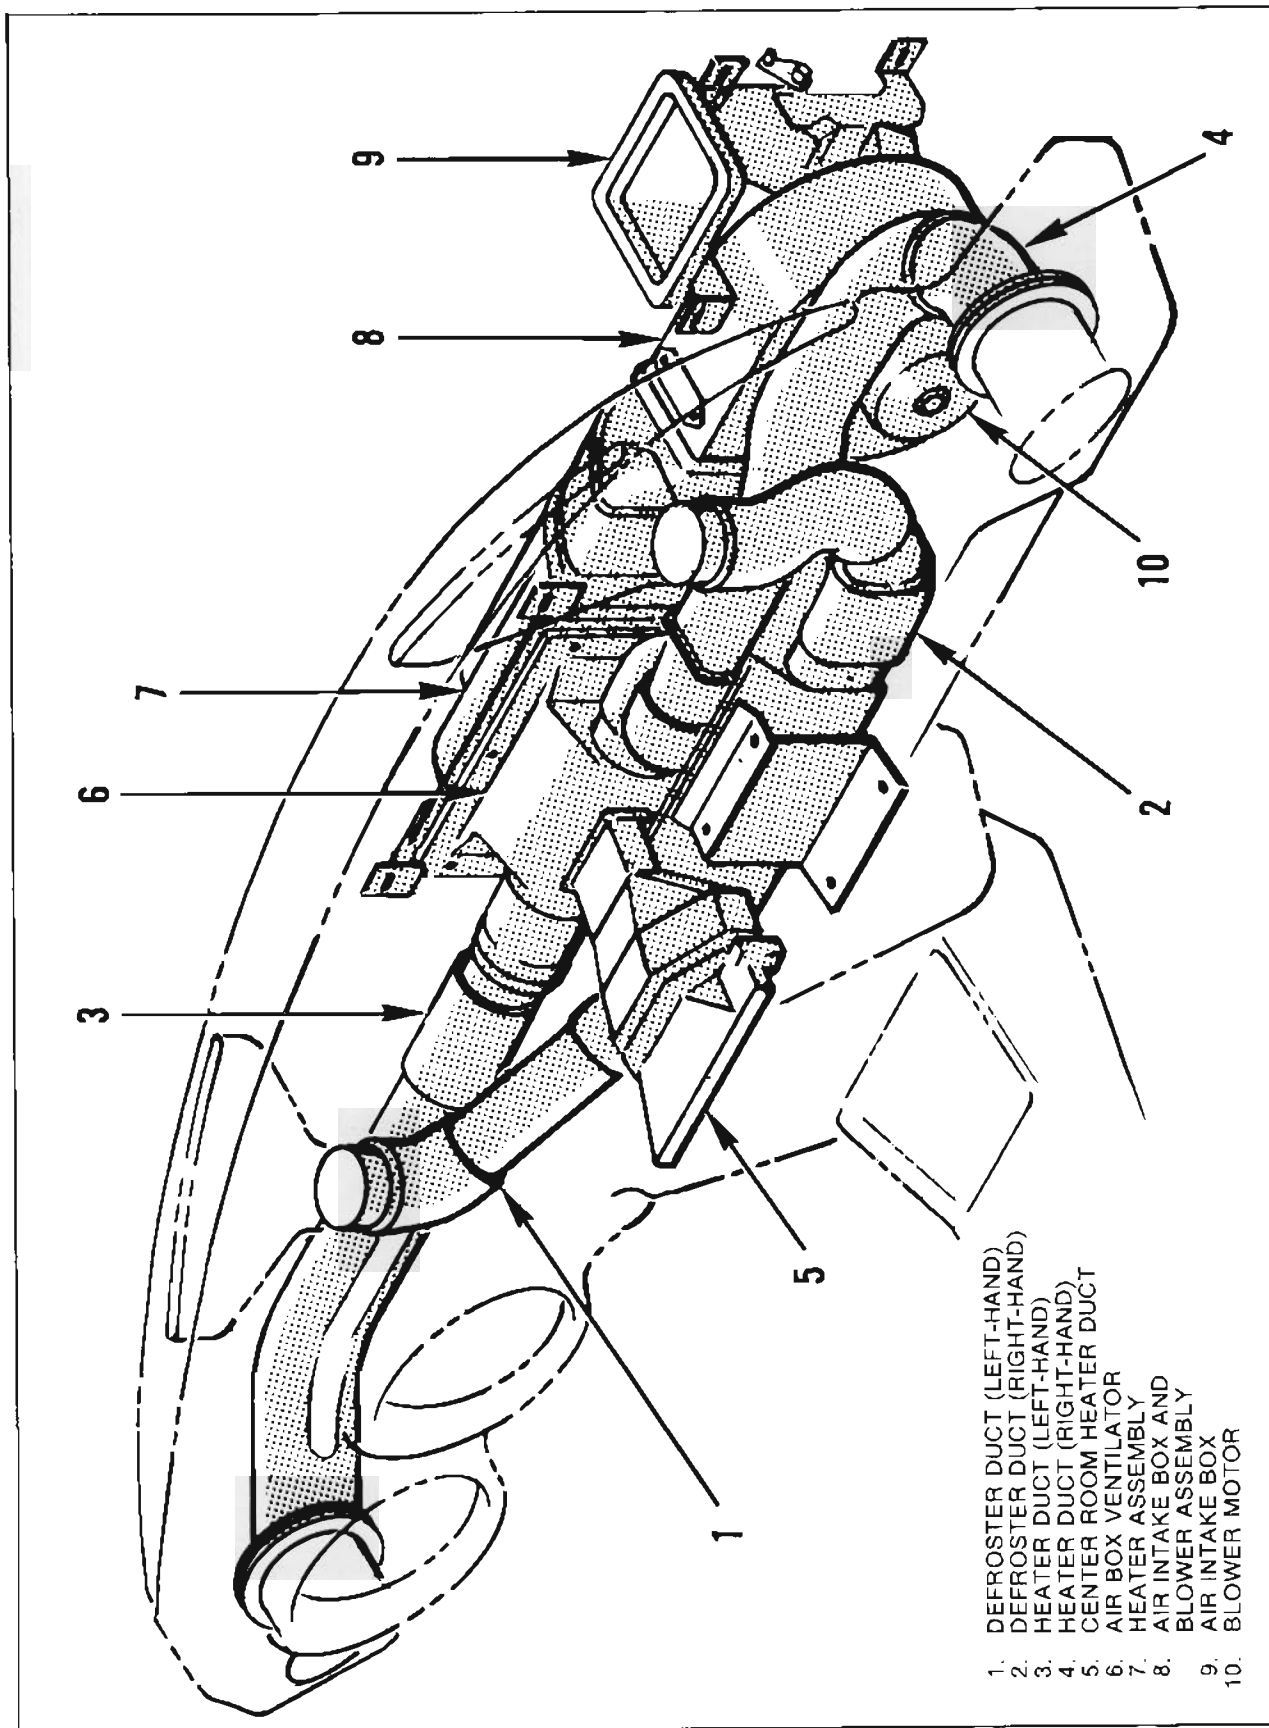

Figure III-1. Heat and Ventilating System (HVS) Installation
The system components, compartment, air intake/blower, and heating unit assembly, are mounted under the instrument panel adjacent to the inner firewall. Fresh air is ducted to compartment air outlets in the instrument panel facia, console finisher, and windshield defroster outlets located in the instrument panel, top garnish. (See Fig. III-1.)
2. Disconnect the defroster ducts (see Figure III-1, Items 1 and 2) at the air outlets.